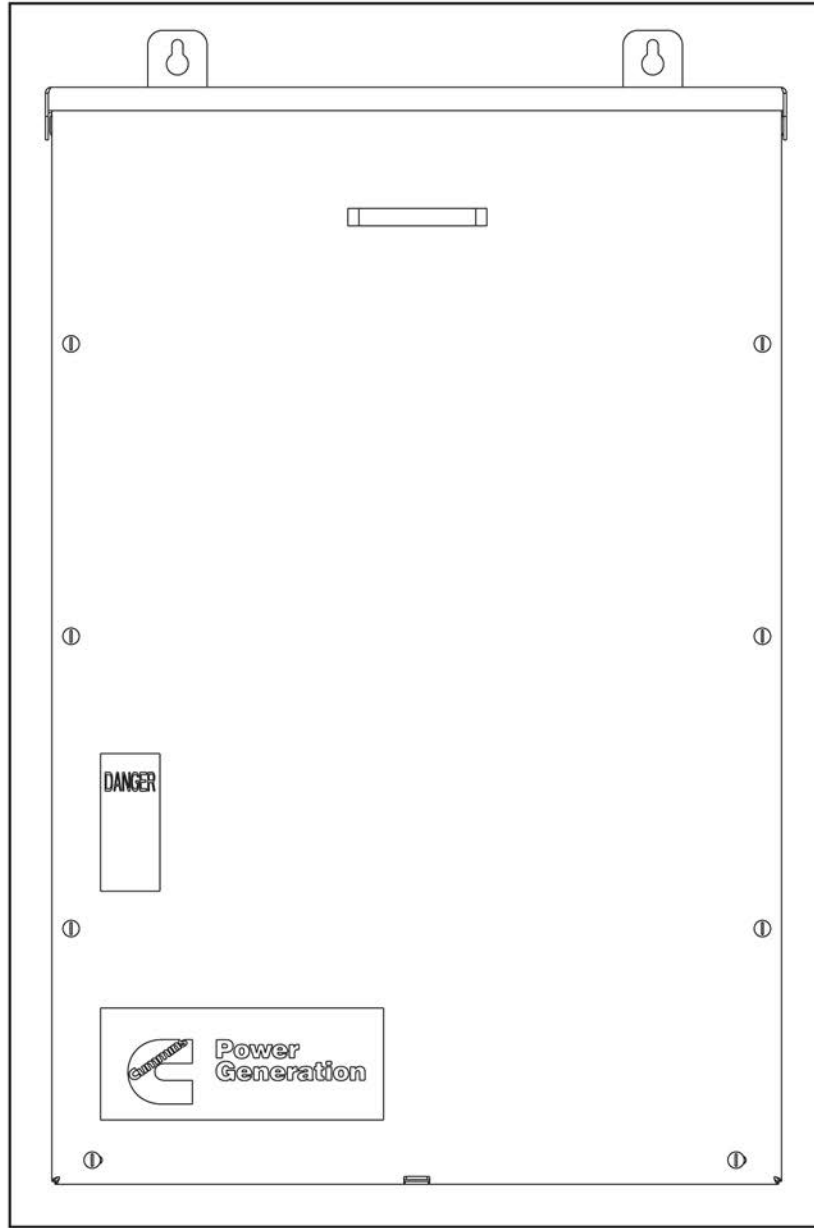

FIGURE 33. RA SERIES 400A NON-SERVICE ENTRANCE TRANSFER SWITCH MODEL
- Figure 33. RA Series 400A Non-Service Entrance Transfer Switch Model 65